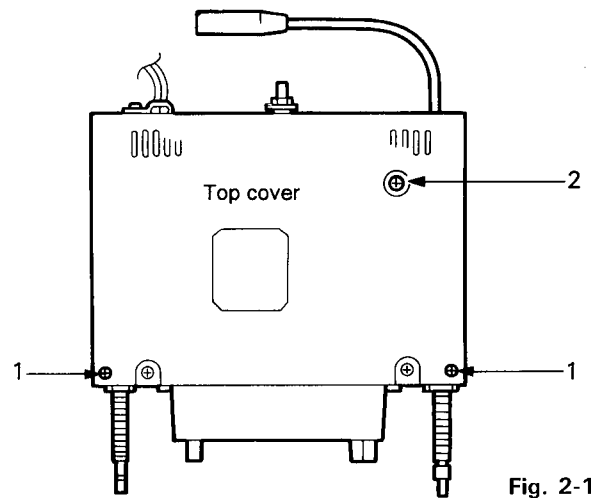

Fig. 2-1
■ Top cover (Figs. 2-1, 2-2, 2-3)
2. Remove two screws (3) retaining the top cover from the rear of the set.